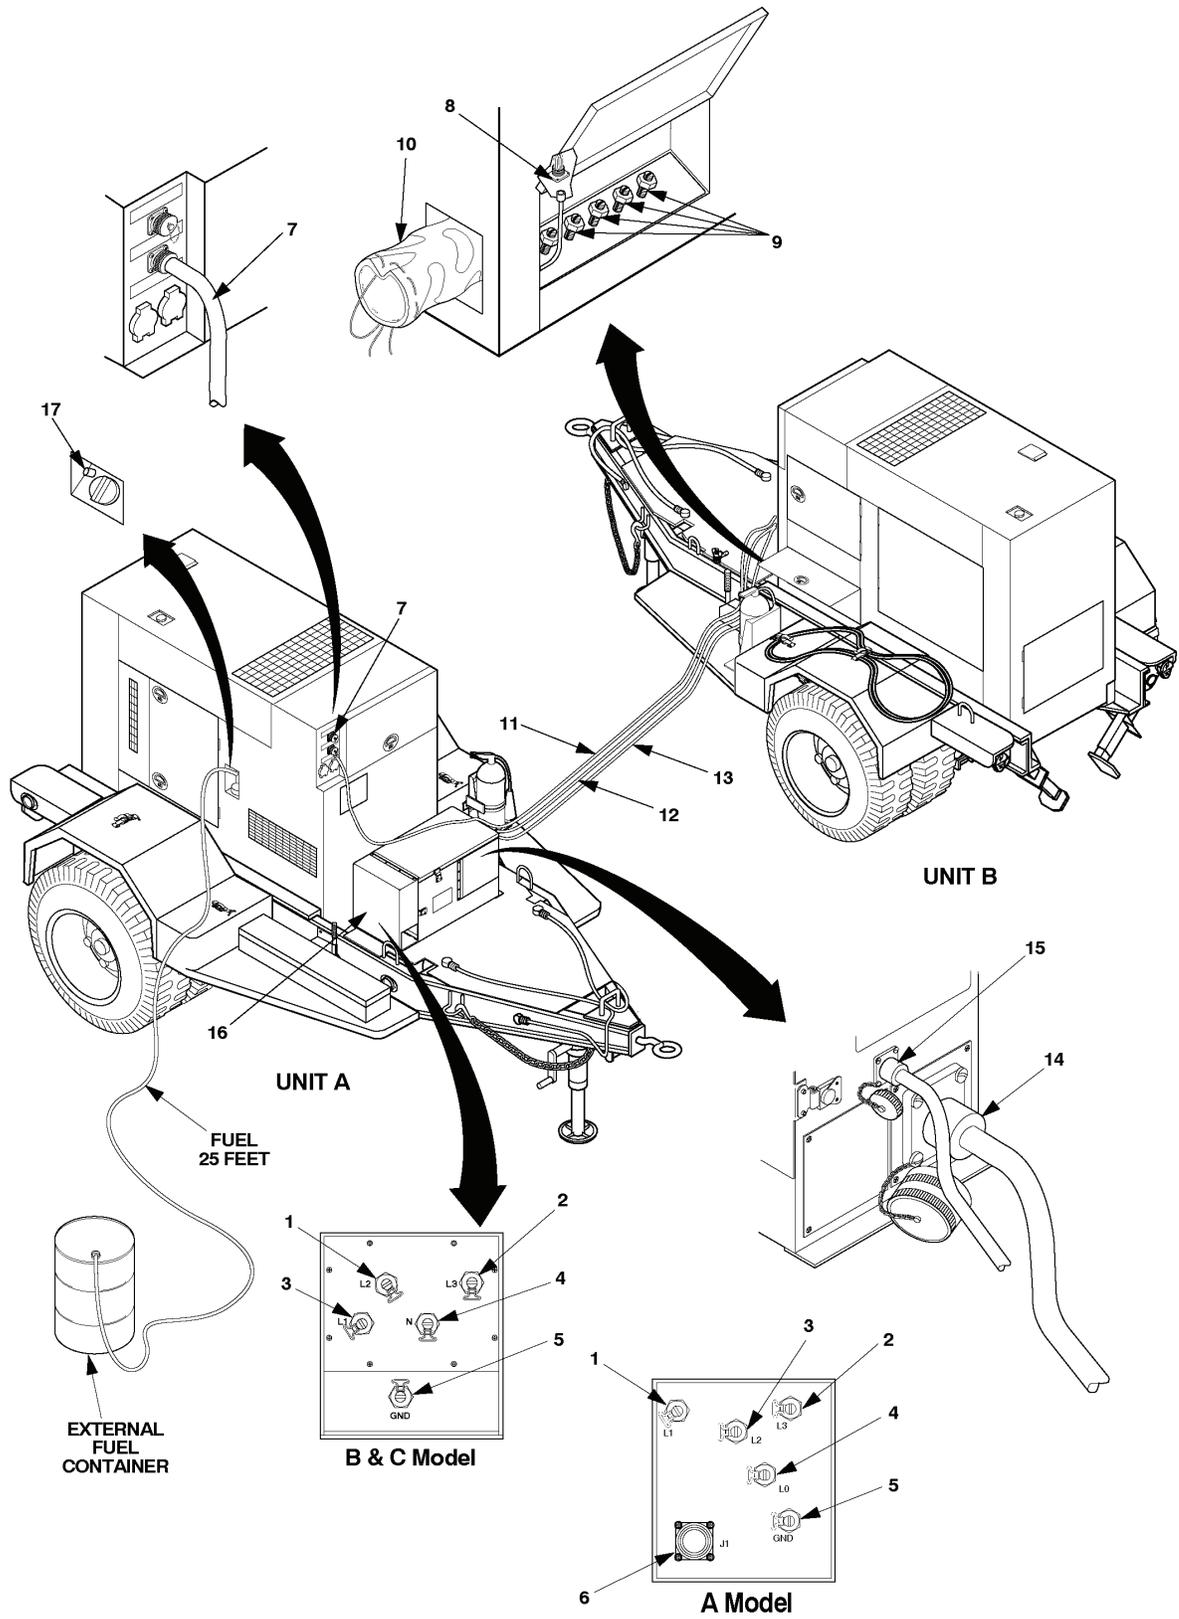

Figure 2-6. Connecting Power Plant.
- b. Connect one ground rod coupler (10) to one section of ground rod (7) and screw slide hammer into coupler (10). Make sure that slide hammer rod (4) seats on ground rod (7).
- c. Drive ground rod into ground until coupler (10) is just above surface.
- d. Remove slide hammer assembly and install another section of ground rod (7).
- e. Install another coupler (10) and then the slide hammer assembly. Drive ground rod (7) down until new coupler (10) is just above ground surface.
- f. Repeat steps d and e until ground rod (7) has been driven eight feet or deeper, providing an effective ground.
- g. Connect clamp (9) and ground cable (8) to ground rod (7). Tighten clamp screw.
- h. Connect ground cable (8) as follows.
- (1) If a trailer having the load terminal is being used, perform steps (5) through (7). Otherwise perform steps (2) through (4) and step (7).
- (2) Remove and retain wing nut (4, figure 2-6) and washers (3) from trailer ground stud (1) and install ground terminal (2) to ground stud (1).
- (3) Install washers (3) on ground stud (1).
- (4) Install wing nut (4) on ground stud (1) and tighten.
- (5) Loosen nut (7) on trailer ground terminal (9).
- (6) Insert ground cable (8) through slot of ground terminal (9) making sure that the ground wire from the generator remains in the slot.
- (7) Insert ground cable end into ground cable clamp (5) and tighten screw (6).
**2-3.4.2 Power Plant.** Refer to figure 2-6 for installation of power cables and load cables. Load may be connected to the switch box (figure 2-6) by either of two methods. One method is to connect the load cable to the J1 connector (6, figure 2-6). The other method is to connect load cables to the load terminals (1, 2, 3, 4, and 5, figure 2-6). Connect Unit A to Unit B as follows:
- (1) Connect one end of cable (13) to connector J3 (15) of the switch box located on Unit A.
- (2) Route the other end of cable (13) through power cable sock (10) and connect to connector J16 (8) on Unit B generator set.
- (3) Connect the other paralleling cable (11) between the two paralleling receptacles (7) located on the generator set control panels.
- d. Thread fuel pipe (3) into adapter (2). Thread extension pipe (4) into fuel pipe (3).
- h. Connect free end of auxiliary fuel hose to generator set external fuel supply connection and tighten. Connection is located on generator set, near fuel tank filler cap (17, figure 2-6).